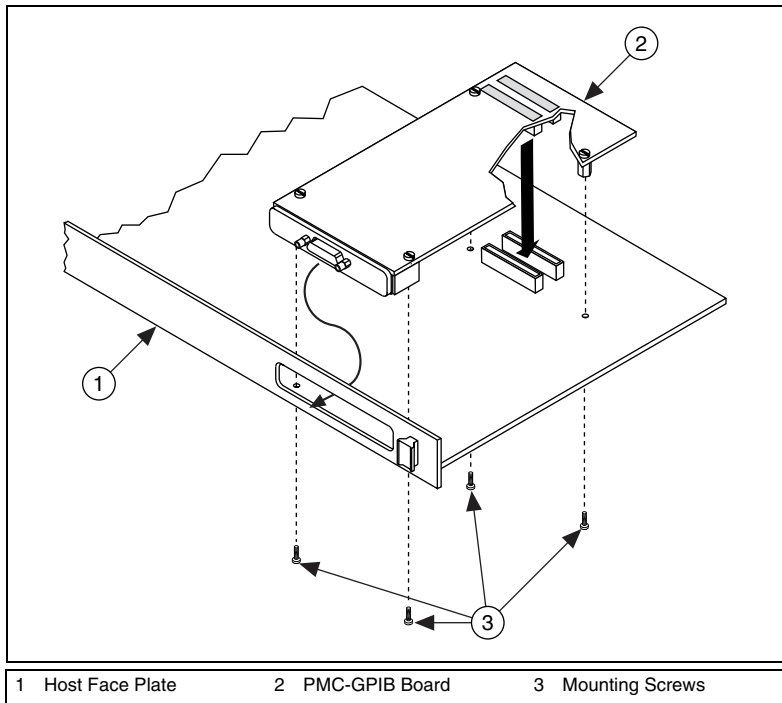

Figure 3. Installing the PMC-GPIB
7. Insert the PMC-GPIB into the slot as shown in Figure 3. It might be a tight fit, but do *not* force the board into place.